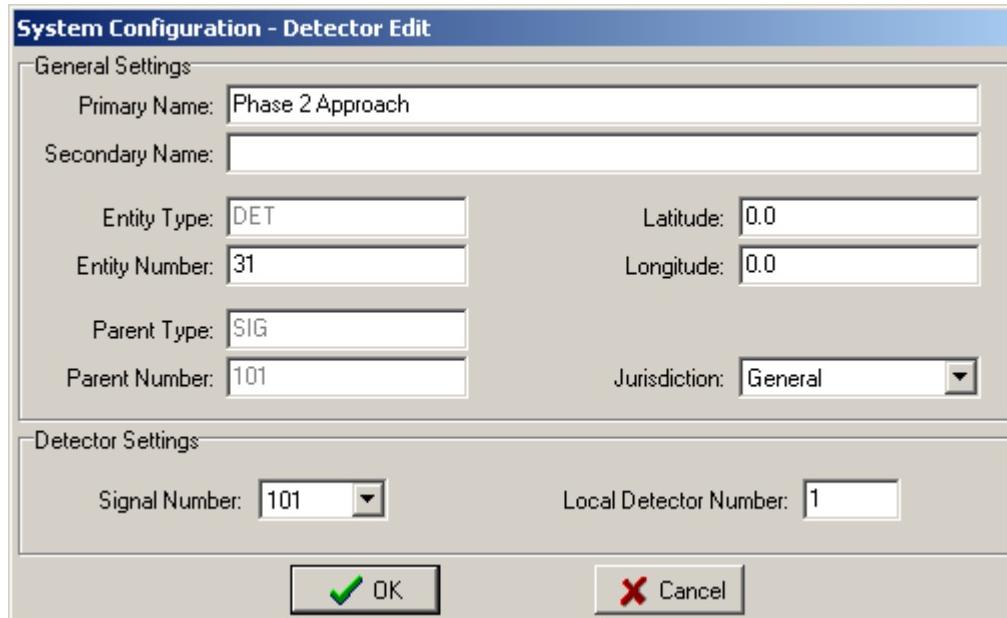

Figure 4-6: Defining a Detector
2. Select ‘DET’ from the Object Types pull down list. Figure 4-6 will then appear.